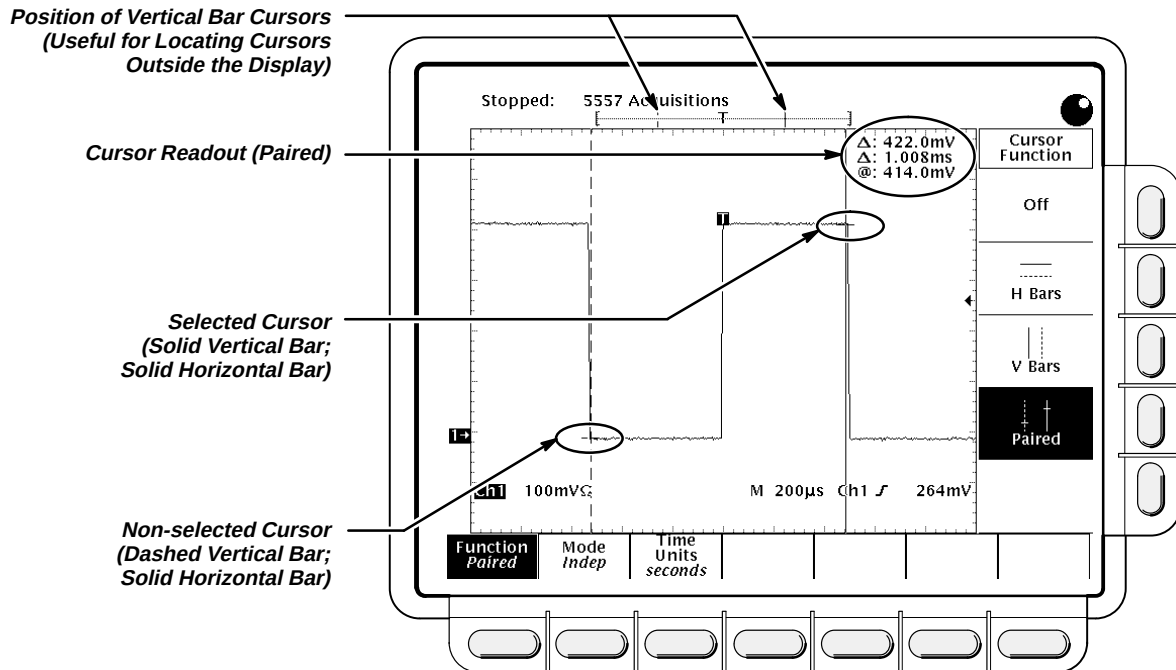

Figure 3-7: Paired Cursor Menu and Readouts
- **Paired:** the value after one Δ shows the voltage difference between the two short horizontal bars; the other Δ shows the time (or frequency) difference between the two long vertical bars. The value after @ shows the voltage at the short horizontal bar of the selected cursor relative to ground (see Figure 3-7).